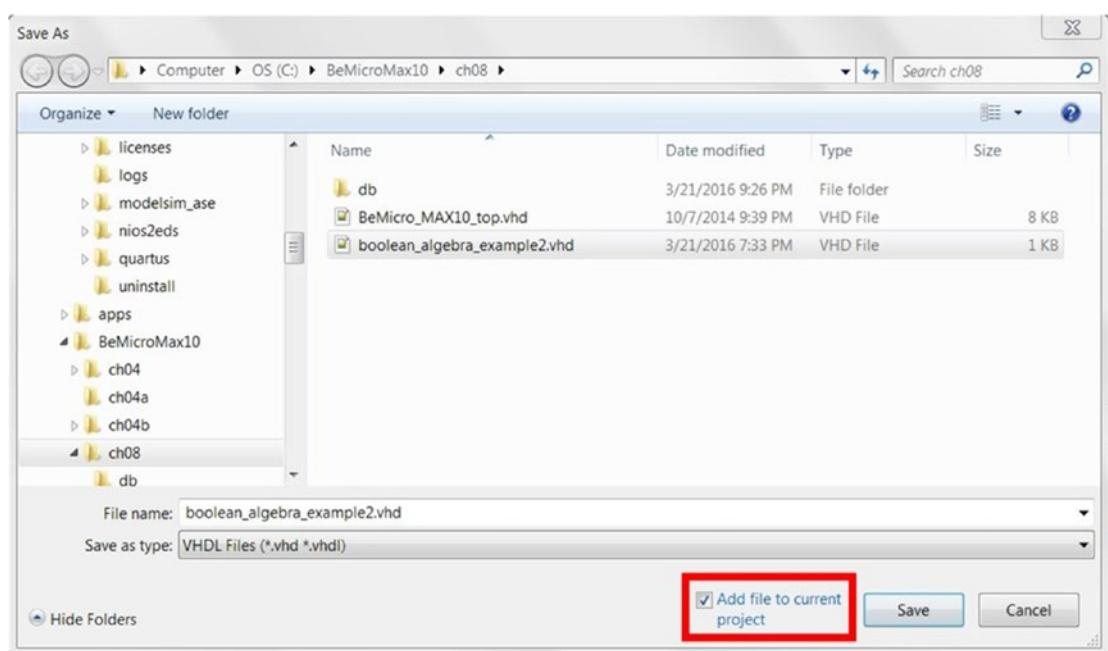

Figure 8-5. Save the VHDL file as *boolean_algebra_example2.vhd*
4. Copy the code from Listing 8-2 into the new VHDL file and save the file as boolean_algebra_example2.vhd with the check box Add file to current project ticked (Figure 8-5).